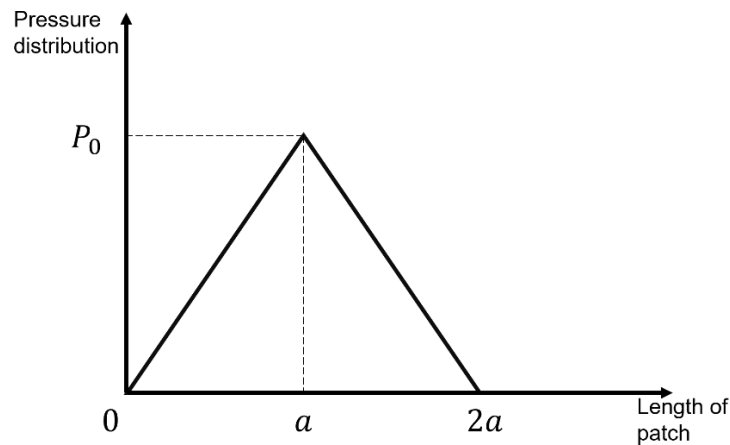

Figure 2 Bilinear pressure distribution
- C. Comment about the transition point for the following bilinear distribution (Fig 2) and how it affects sliding region